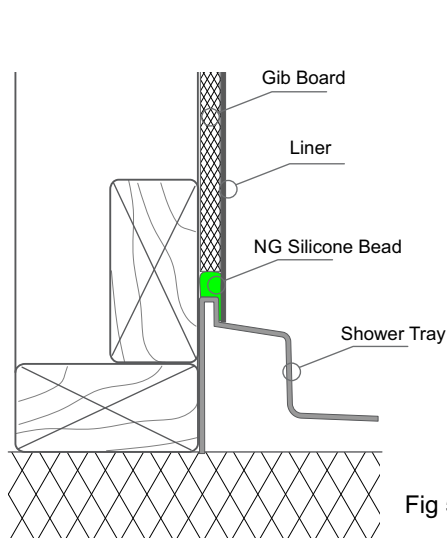

Fig 5
- 11 - **Apply Liner.** Now place the shower liner onto the walls. Starting from the corner work outwards towards the edge, removing any rippling. Then firmly press over the entire sheet, ensuring that complete contact with all beads of adhesive is achieved. All to Fig 5 below.